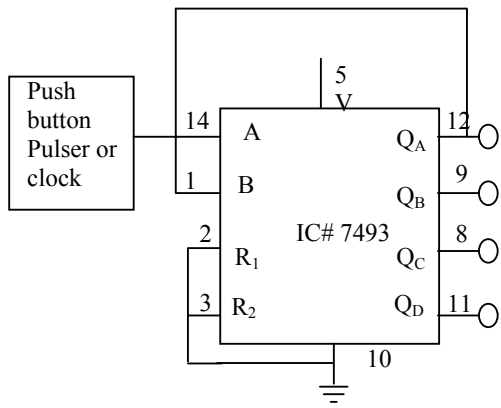

Fig.3 Binary Counter
2. Connect the IC type 7493 as shown in Fig. 3 Pin 14 is connected to PB1.